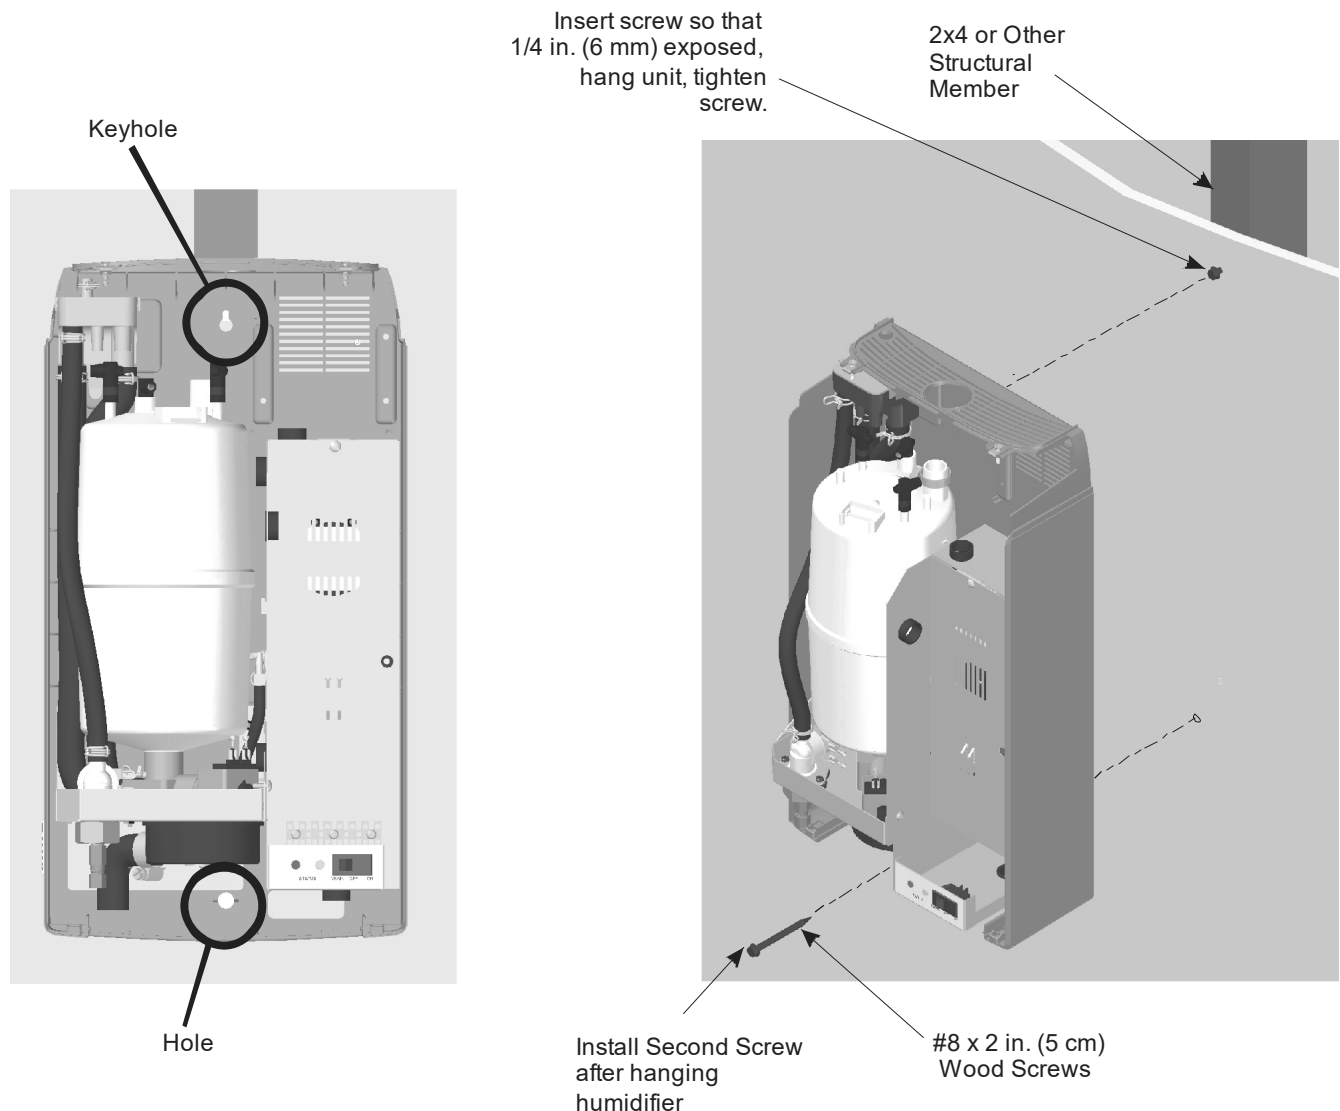

Figure 5: Mounting With Keyholes
- 4 Make sure the unit is level and then insert and tighten the second screw through the bottom hole. Tighten the top screw. See Figure 5: Mounting With Keyholes.